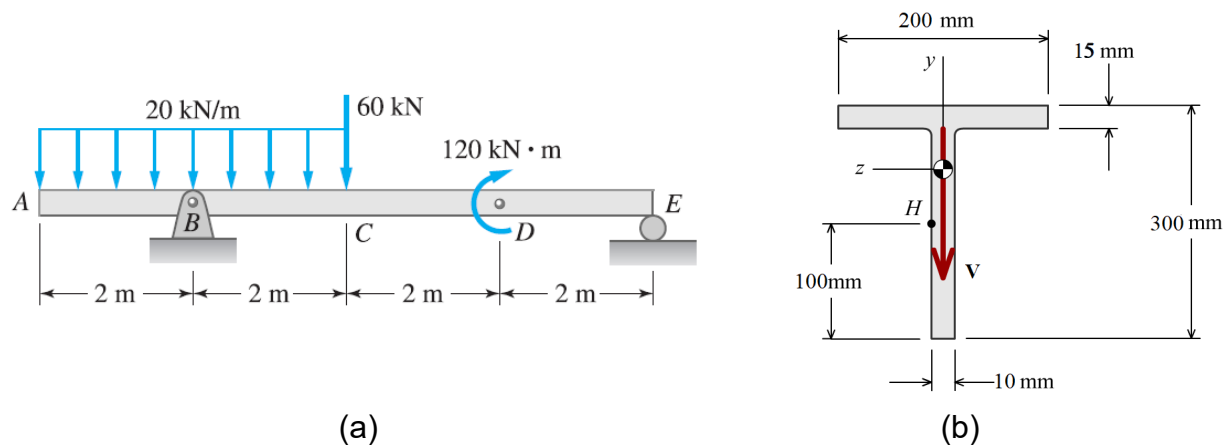

Figure 3
3. A simply supported beam is used to support the loads shown on the beam in Figure 3 (a). The cross-sectional dimensions of the beam are shown in Figure 3 (b).